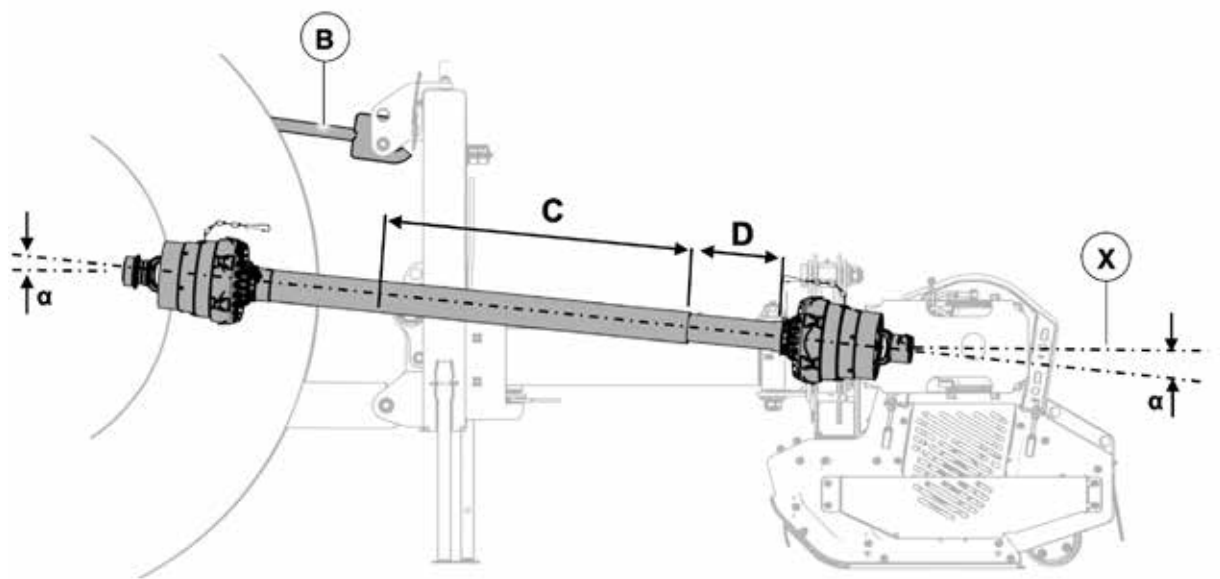
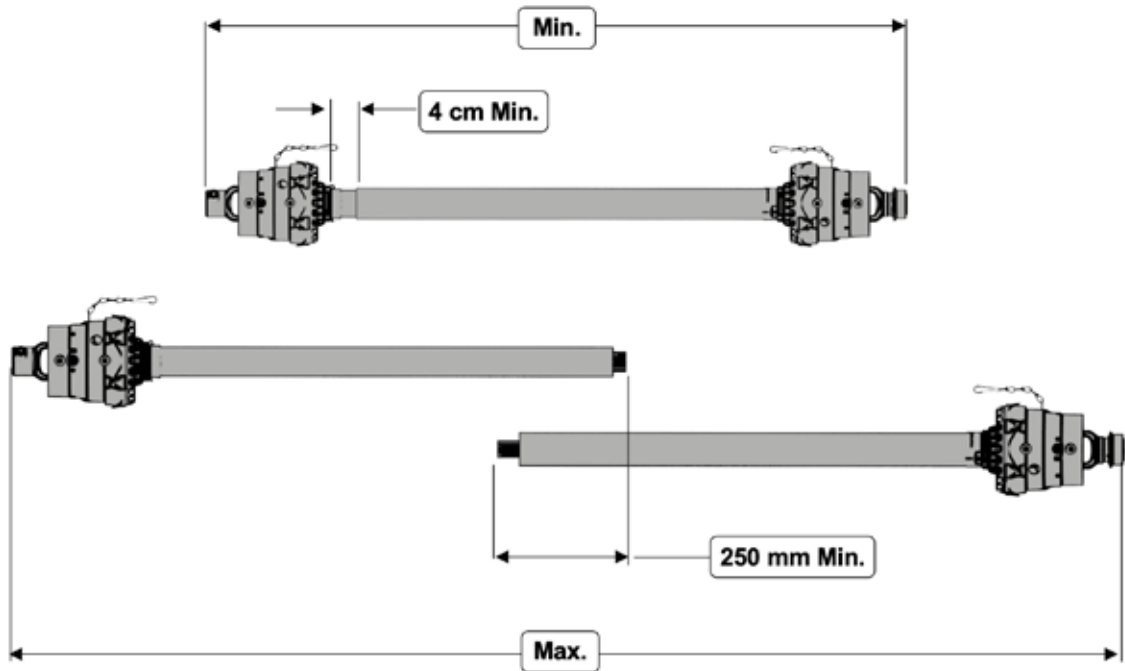

Fig. 21 Cardan shaft fitted
Fig. 22 Cardan shaft - sliding tube cover
To do this, increase or decrease the length of the upper connection bar (Fig. 21 det. B) so that the axle (Fig. 21 det. X) of the grooved ring of the box is parallel to the ground.
- The two angles (Fig.21 det. α) formed by the axles of the forks and the axle of the sliding tubes will be equal and must not exceed 10° .
- The cover (Fig. 21 det. C) of the sliding tubes must overlap by at least 1/2 of their length under normal working conditions and must overlap by at least 1/3 of their length under all working conditions. When fully engaged, the minimum clearance must be 4 cm (Fig.22).
- The two cardan transmission shaft tubes must not be completely covered, a safety clearance (Fig.22 det. D) of at least 4 cm must exist.
- The angles (Fig.22 det. α) of the cardan shafts shall not exceed 40° (Fig.22).